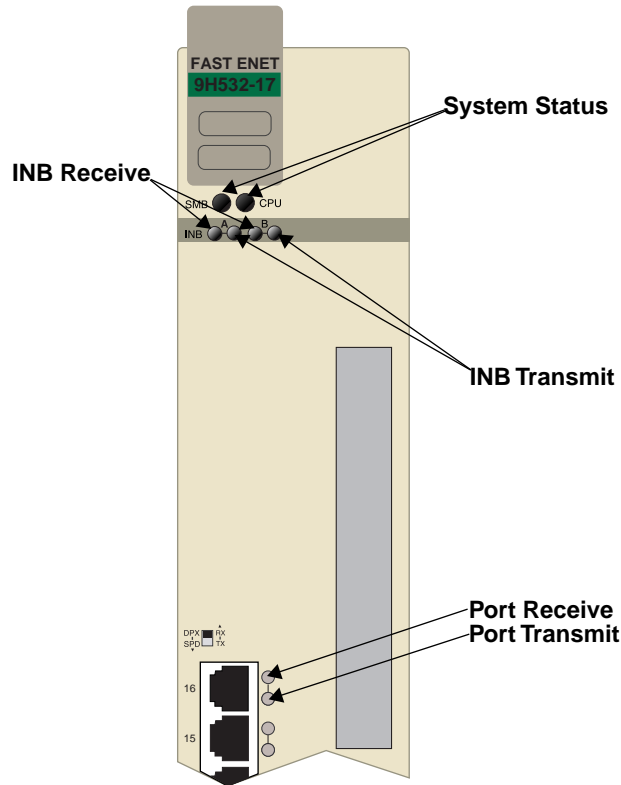

Figure 4-1. The LANVIEW LEDs (9H532-17 shown) and LED Mode Switch
The front panel LANVIEW LEDs indicate the status of the module and may be used as an aid in troubleshooting. Figure 4-1 shows the LANVIEW LEDs of the 9H531-17 and 9H532-17 modules.
The 9H532-17 has an LED mode switch, located on the front panel, that allows the user to change the function of the switch port LEDs. Refer to Figure 4-1. When the switch is in the UP position, the LEDs indicate the receive (RX) and transmit (TX) status of the fixed ports. When the mode switch is in the DOWN position, the LEDs indicate at what speed the applicable port is currently operating (10 Mbps or 100 Mbps) and if the applicable port is operating in standard (half) or full duplex mode.